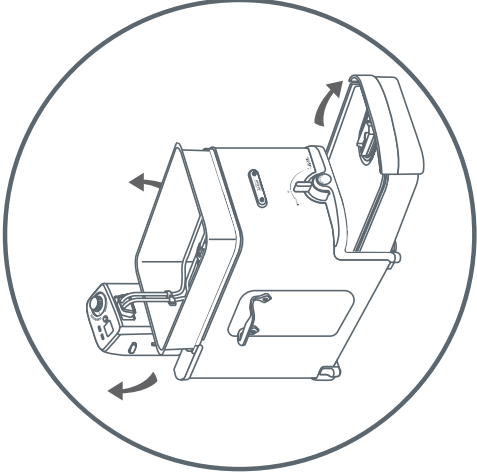

Fig. 1
- Your fryer is easy to handle and to dismantle – fig. 1.
- The fryer can be completely dismantled – fig. 1. Remove the lid. Remove the frying basket, the control unit and the bowl. Remove the oil box by positioning the Oil box control button on the Oil box position.